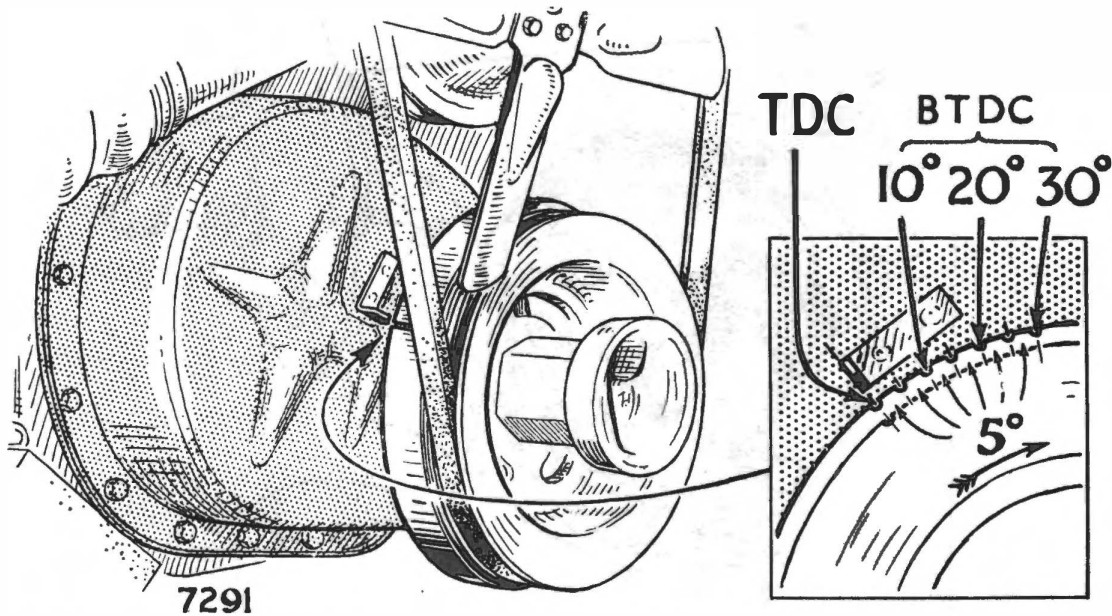

Fig. 13. No. 1 and 4 cylinder T.D.C. pointers—Insert shows T.D.C. to 30° B.T.D.C. timing marks added from Rapier Series IV and later Alpine Series III.
Fig. 13 shows the T.D.C. pointer on the timing case and the T.D.C. line on the damper rim opposite to each other.
If the 5° spaced timing marks exist, they should be used to set the engine to the static ignition timing angle B.T.D.C. See inset of Fig. 13.
**Note:** If the damper rim has a number of 5° spaced timing marks as shown in the inset of Fig. 13 it will not be necessary to mark off the metric measurement equivalent for 11° because this angle can be read off directly on the damper rim using the timing marks. The marks are spaced at 5° intervals.